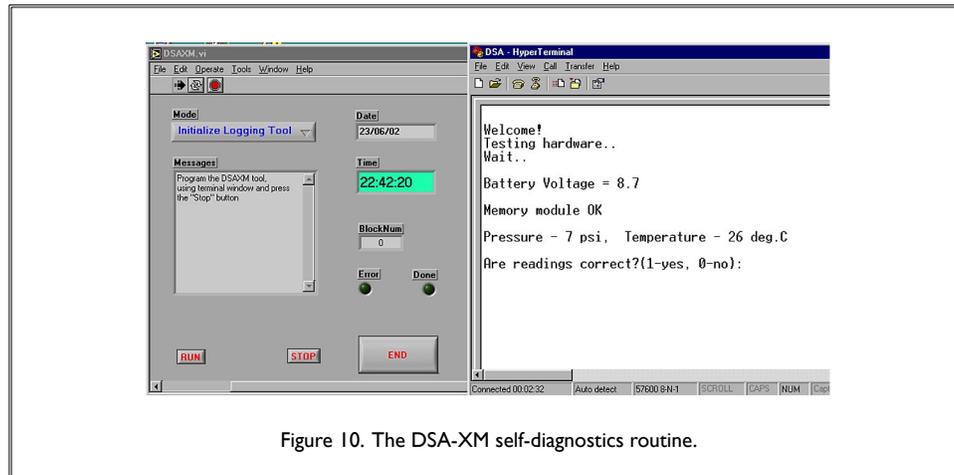

Figure 10. The DSA-XM self-diagnostics routine.
- B. Start the program by clicking the white arrow in the top left corner of the menu bar. Set the Mode menu to “Initialize Logging Tool” mode and click the RUN button. The program starts the HyperTerminal application with the proper parameter settings for communication with the DSA-XM tool (see Figure 10, next page) and displays the current date and time in the appropriate format in the “Date” and “Time” indicators. The serial communication settings should be as follows:
- C. Turn on the DSA-XM tool power switch (see Figure 6) and move the safety clamp into locking position to prevent the switch from flipping back. With the cursor placed at the beginning of the Hyperterminal window, press the “Enter” key to start communication with the tool. If the tool is connected properly you will see a welcome message and a message from the DSA-XM self-diagnostics routine (see Fig. 10, above, and Appendix A: DSA-XM Sample Dialog). If the diagnostics message is “Memory Module OK” and temperature and pressure readings are correct (any pressure reading within 0 – 20 psi range is acceptable), you can start initializing the tool. If you get an error message (“**ERROR! Please check memory module!**”), you most likely did not properly install the memory module on the board. In this case, turn off the tool and carefully repeat the memory module installation.